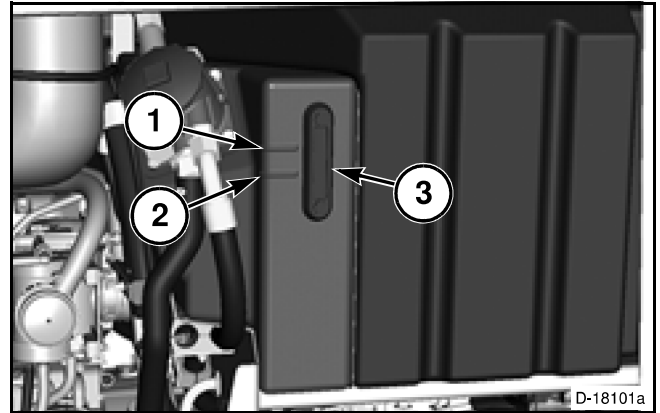

FIG. 37
FIG. 37: Check the level of the hydraulic fluid every day. The level of the hydraulic fluid must be between the full mark (1) and the add mark (2) in the sight glass (3) on the hydraulic reservoir.